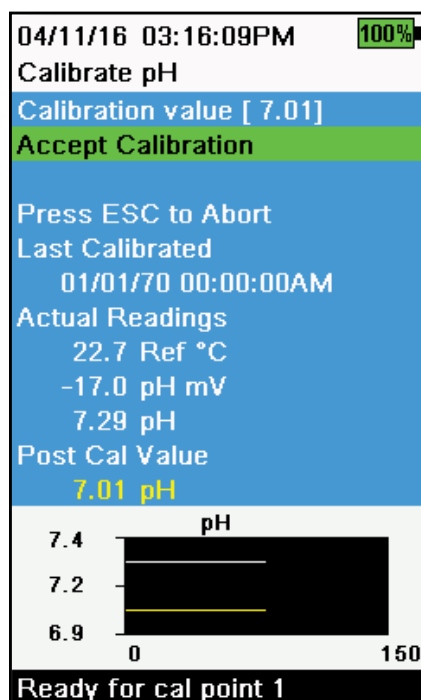

Figure 37 Calibrate pH 1-point
6. Observe the actual measurement readings for stability (white line on graph shows no significant change for 40 seconds), then select **Accept Calibration** (Figure 37). "Ready for cal point 2" will be displayed in the message area.